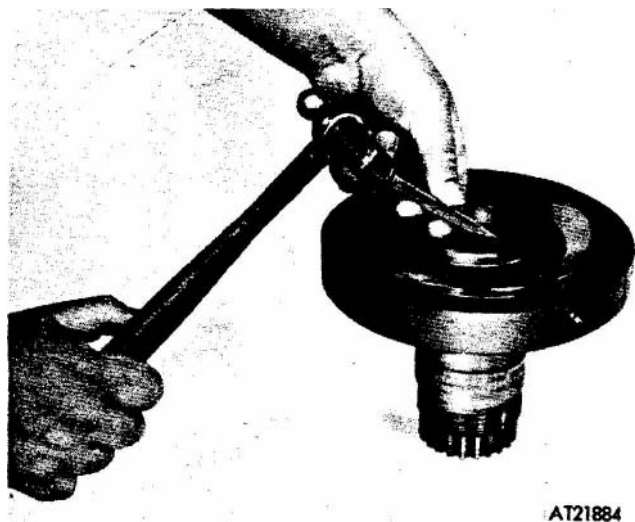

Figure 2-231, Input drive seal removal
(26) Using a suitable tool remove input drive seal from spindle (fig 2-231).